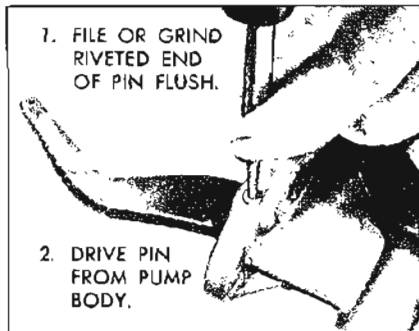

Figure 3-22—Removing Rocker Arm Pin
1. File or grind riveted end of rocker arm pin flush with steel washer, or cut off end with a 3/8" drill. Then drive pin out with a drift punch and hammer. See Figure 3-22.